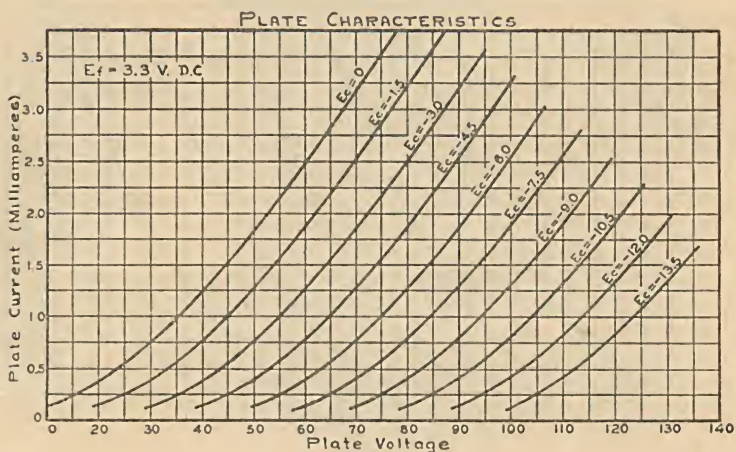

Fig. 3
**Plate Characteristics**—Fig. 3 shows a family of plate voltage-plate current curves at various grid bias voltages.